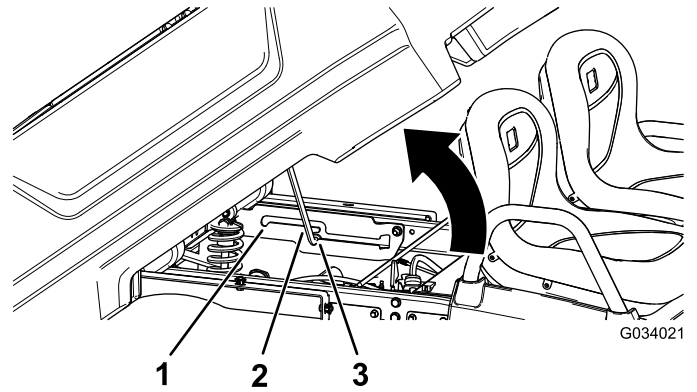

Figure 8
3. Pull the prop rod into the dump position detent slot, securing the bed in a dumping position (Figure 8).